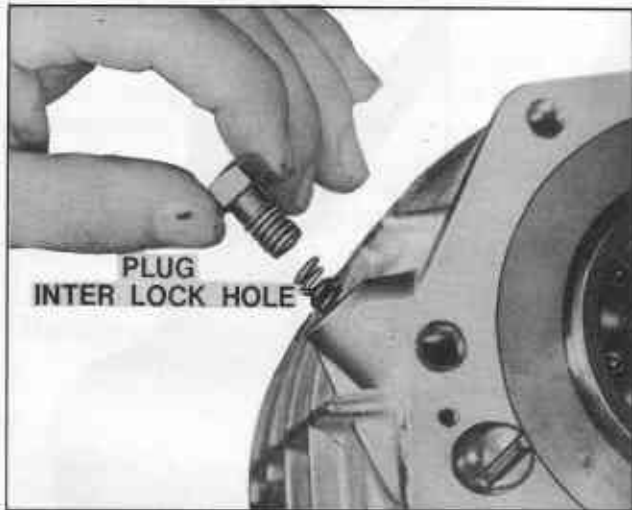

Fig. TM-16 Removing the inter-lock plug
13. Unscrew the inter-lock plug and remove the check ball and spring as shown in Figure TM-16.